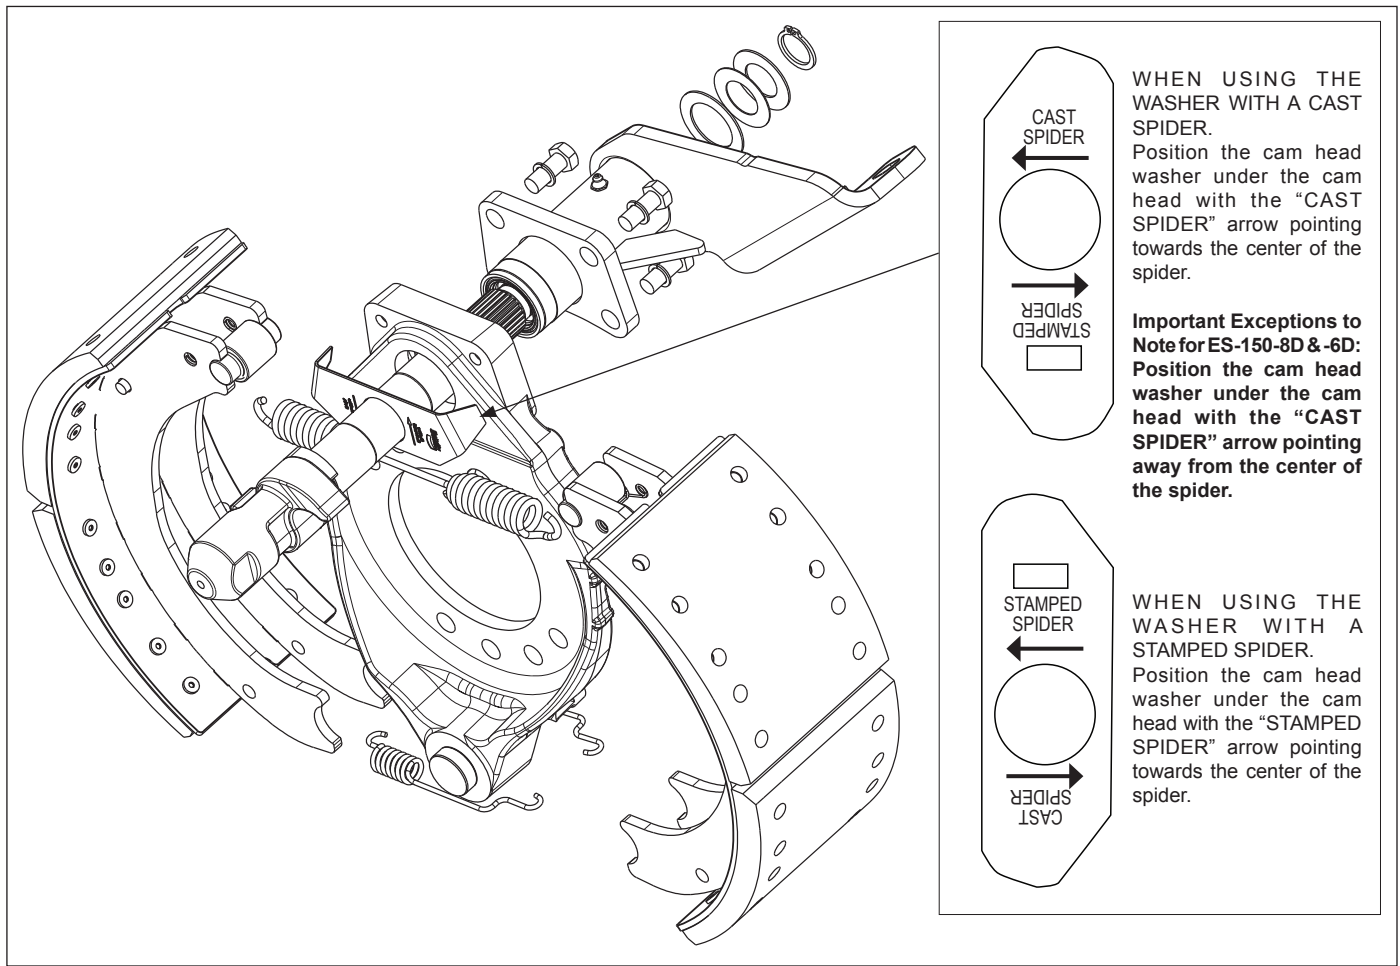

Figure 2 – Typical Brake Exploded View with Inset Showing the Cam Head Washer Orientation
- Remove the cam head washer from the old cam and install on the new cam in the proper direction. See Figure 2.